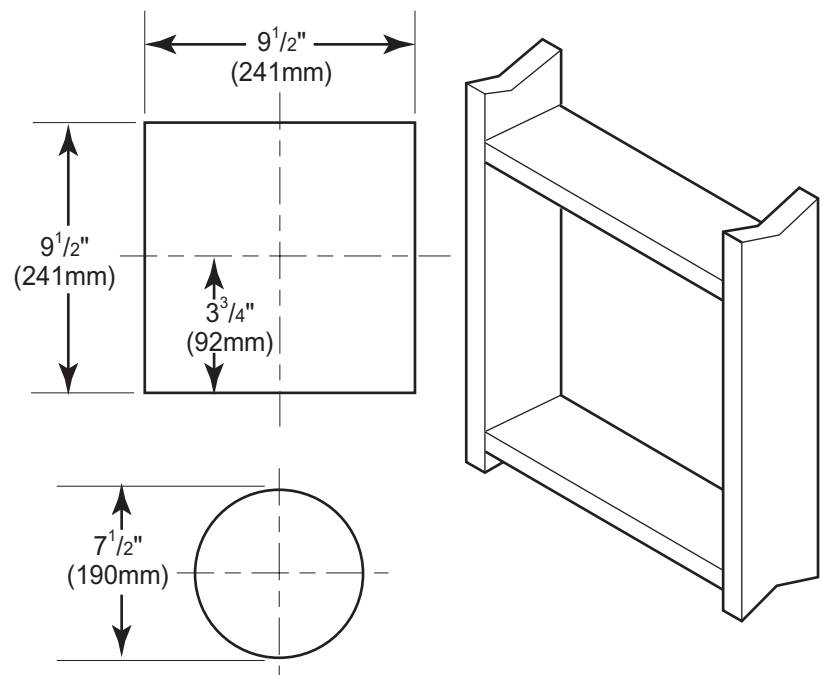

Figure 17 - Exterior Wall Framing Dimensions
Combustible Exterior Walls: Cut a 9¹/₂"H x 9¹/₂"W square hole through the exterior wall frame. See *Figure 17*.
3. The center of the hole should line up with the center line of the horizontal rigid vent pipe end. Pipe shall always run level or uphill on horizontal runs. Never run pipe down hill. See *Figure 17*.